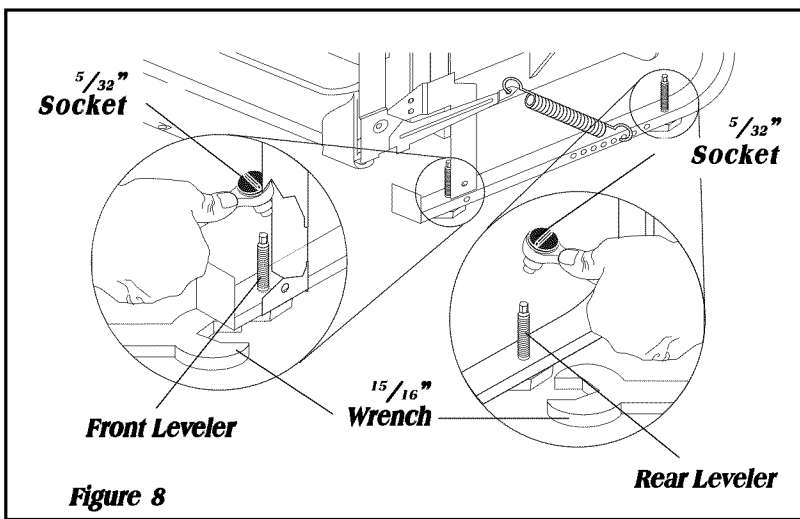

Figure 8
3. Loosen the front and rear leveling legs by turning counterclockwise. Refer to chart for number of turns. See **Figure 8**. Front levelers should allow 1/4" below underside of countertop.